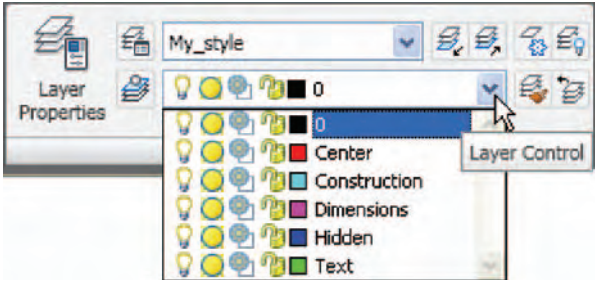

Fig. 7.5 Making the layer Center current from the Home/Layers panel
4. In the **Home/Layers** panel, in the **Layer Control** list *click* on **Center** to make it the current layer (Fig. 7.5). All lines will now be drawn as centre lines.